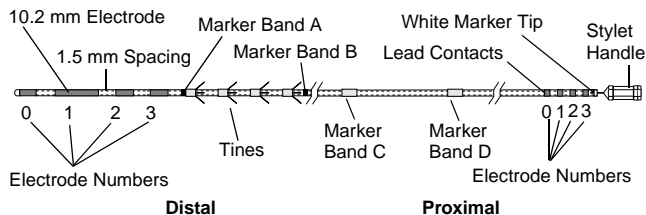
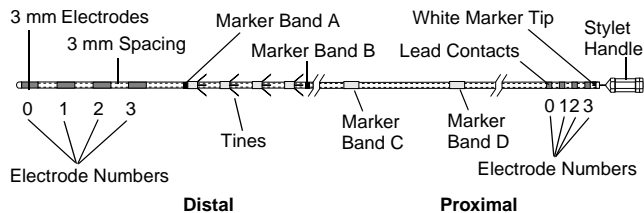

Figure 1. Model 3093 Lead.
Figure 2. Model 3889 Lead.
Figure 1 shows the Model 3093 Lead and Figure 2 shows the Model 3889 Lead.
- The marker bands on the lead exist to aid in proper lead placement and to notify the physician when the tines are ready to be deployed (refer to Figures 1 and 2 on page 10).